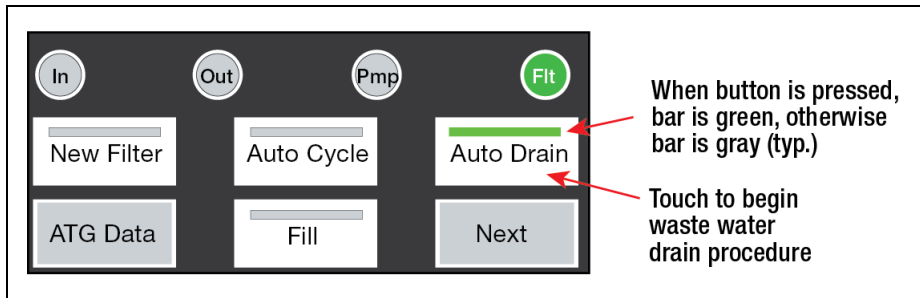

Figure 4.
- Touch the Auto Drain button (see Figure 4).